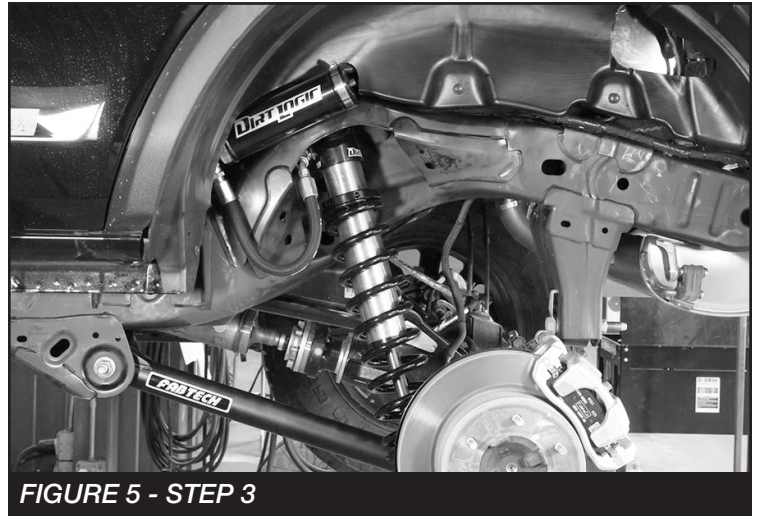

FIGURE 5 - STEP 3
3. Mount the resi to the mount using the supplied clamps. **SEE FIGURE 5**